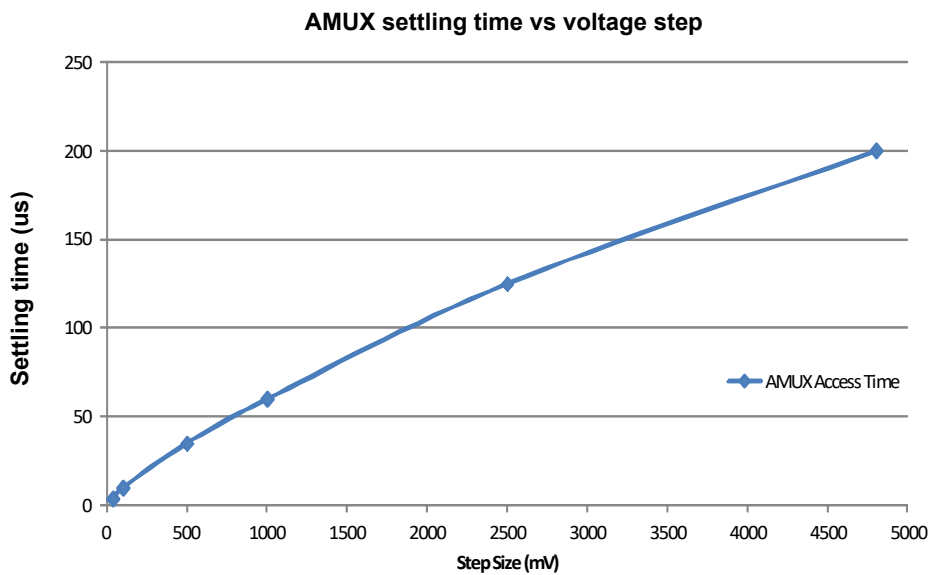

Figure 9. AMUX access time waveform
26. AMUX settling time to be within the 10 mV offset specification. $\text{AMUX}_{\text{VALID}}$ is dependant of the voltage step applied on the input SGx/SPx pin or the difference between the first and second channel selected as the multiplexed analog output. See Figure 9 for a typical AMUX access time VS voltage step waveform.